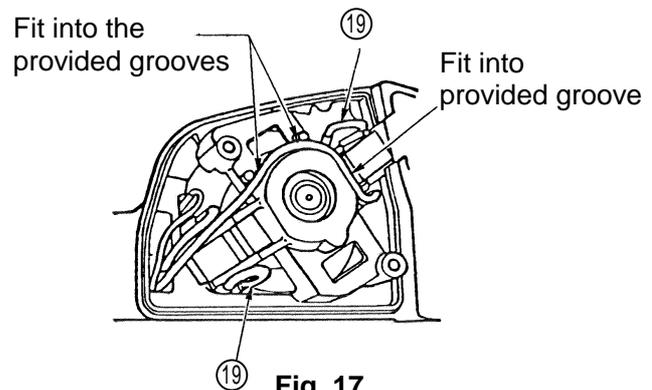

Fig. 17
Arrange the leadwires so that they are fitted into the provided grooves, as illustrated in Fig. 17, and carefully ensure that none of the leadwires comes in contact with the Armature (28).